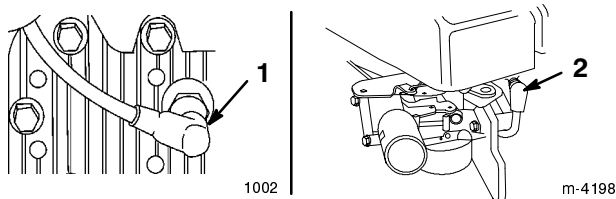

Figure 11
1. Connect the wire to the spark plug (Fig. 11).